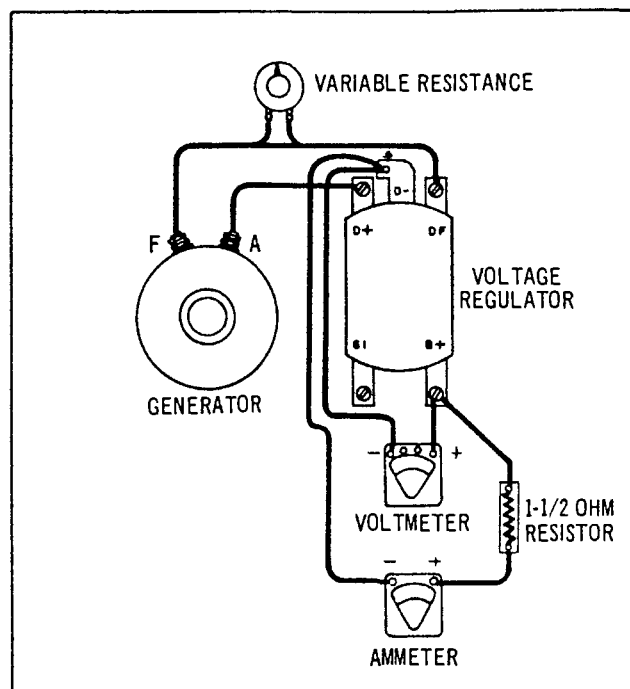

Figure 5.
#### C. TESTING VOLTAGE CONTROL UNIT SETTING (FIG. 5)
1. Make same connections as used to make previous Test B, except move positive voltmeter lead to regulator "B+" terminal. See Fig. 5.